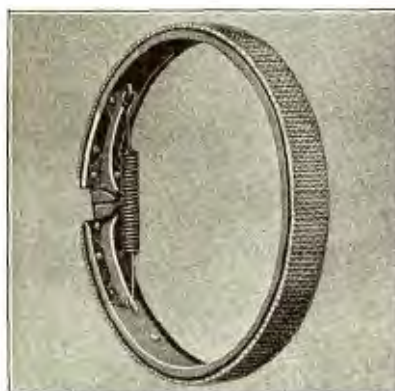

Fig. 555
- 1219** The new hub brake shoe has been increased from $7\frac{15}{16}$ " in diameter to $10\frac{15}{16}$ " in diameter, the width of the shoe being increased from 1" to $1\frac{1}{2}$ " (see Fig. 555).